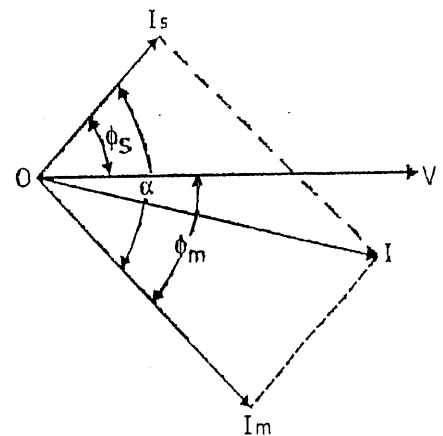

FIG. 4.28 : VECTOR DIAGRAM
- The vector diagram of the capacitor start capacitor run single phase induction motor is shown in Fig. 4.28.